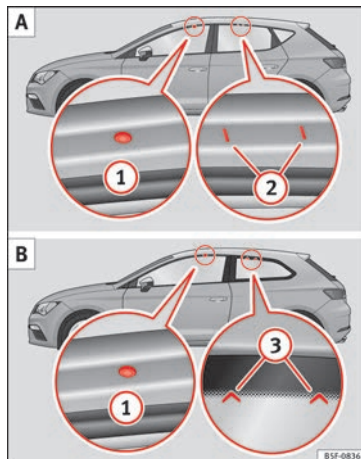

Fig. 183 Leon/Leon SC: attachment points for the roof railings for the roof carrier system.
The front and rear attachment points ① and ② are only visible when the doors are open »» Fig. 183 A.
rear attachment points ③ are marked on the top edge of the glass with arrow heads »» Fig. 183 B.